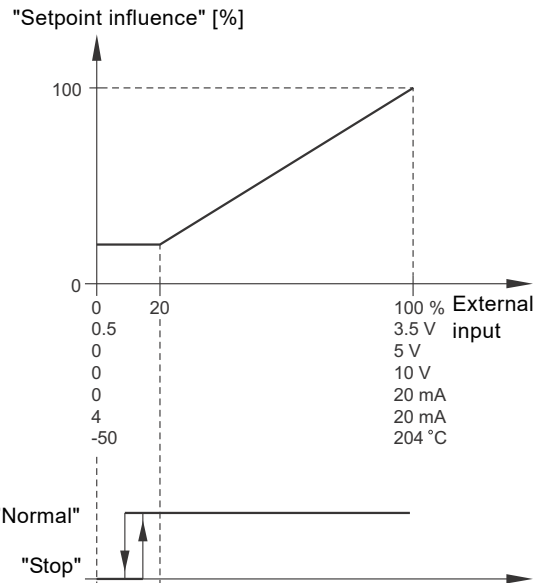

Fig. 63 Linear with Stop
- If the input signal is above 15 %, the operating mode is changed back to Normal. See fig. 63.